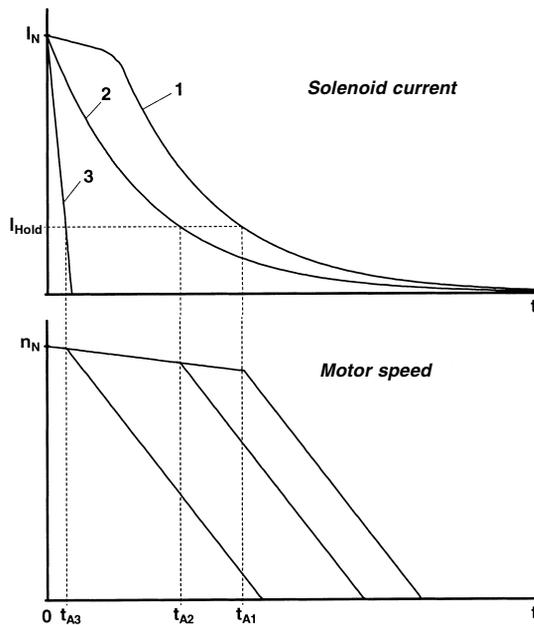

Fig. 3: Solenoid current and motor speed pattern after interruption to the alternating (1, 2) and direct (3) currents
- a) Rectifier supply from the motor terminal block (Fig. 3, graph 1)
- b) Separate rectifier supply (Fig. 3, graph 2)
4.1.2.2 Interruption in the solenoid DC switching circuit (Fig. 3, graph 3)